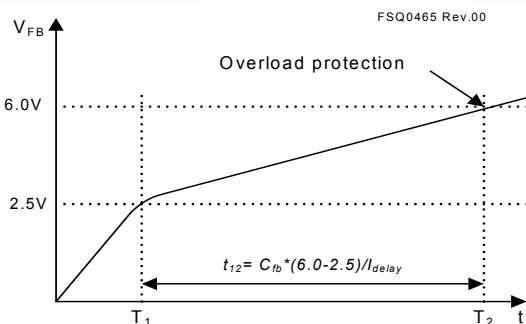

Figure 29. Overload Protection
**4.1 Overload Protection (OLP):** Overload is defined as the load current exceeding its normal level due to an unexpected abnormal event. In this situation, the protection circuit should trigger to protect the SMPS. However, even when the SMPS is in the normal operation, the overload protection circuit can be triggered during the load transition. To avoid this undesired operation, the overload protection circuit is designed to trigger only after a specified time to determine whether it is a transient situation or a true overload situation. Because of the pulse-by-pulse current limit capability, the maximum peak current through the SenseFET is limited, and therefore the maximum input power is restricted with a given input voltage. If the output consumes more than this maximum power, the output voltage ( $V_O$ ) decreases below the set voltage. This reduces the current through the optocoupler LED, which also reduces the optocoupler transistor current, thus increasing the feedback voltage ( $V_{FB}$ ). If  $V_{FB}$  exceeds 2.5V, D1 is blocked and the 5 $\mu$ A current source starts to charge  $C_B$  slowly up to  $V_{CC}$ . In this condition,  $V_{FB}$  continues increasing until it reaches 6V, when the switching operation is terminated, as shown in Figure 29. The delay time for shutdown is the time required to charge  $C_{FB}$  from 2.5V to 6V with 5 $\mu$ A. A 20 ~ 50ms delay time is typical for most applications.